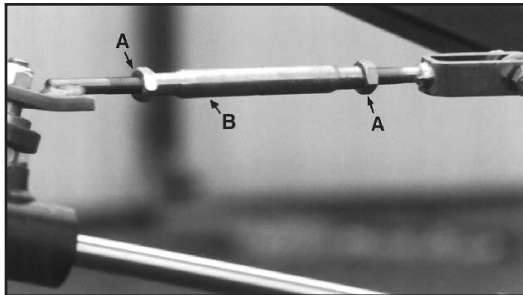

Fig. 38
8.5 Adjusting Front Fold Cable (Fig. 38)